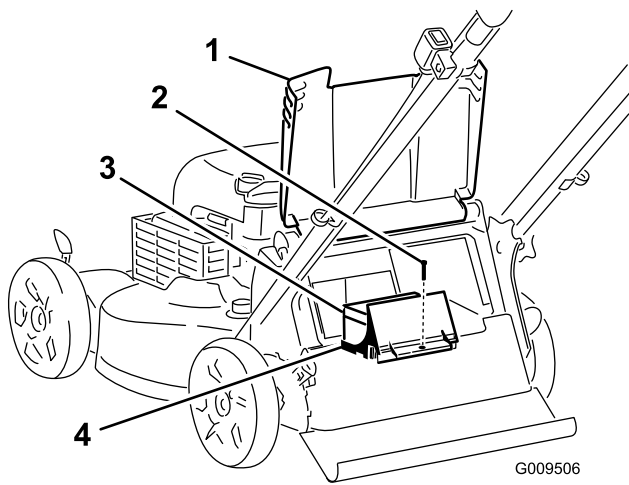
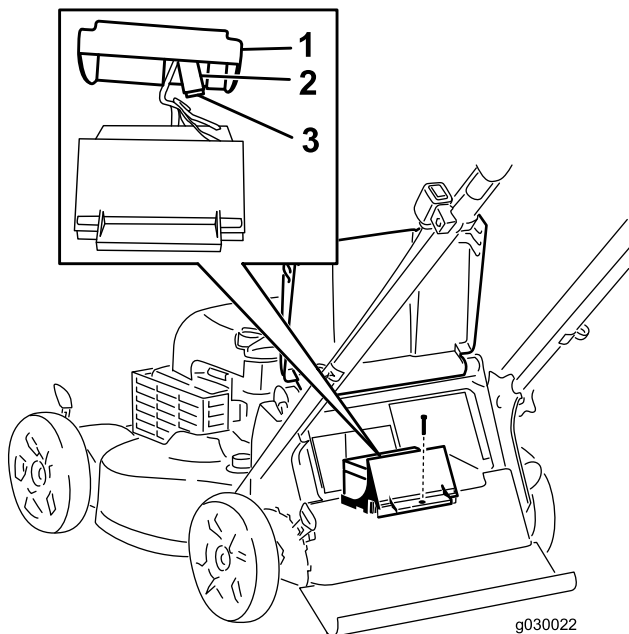

Figure 38
Figure 39
2. Raise the rear deflector and locate the battery compartment (Figure 38).
4. Remove the screw that secures the battery compartment, pull out the battery, and locate the fuse (Figure 38 and Figure 39).
5. Replace the fuse in the fuse holder (Figure 39).